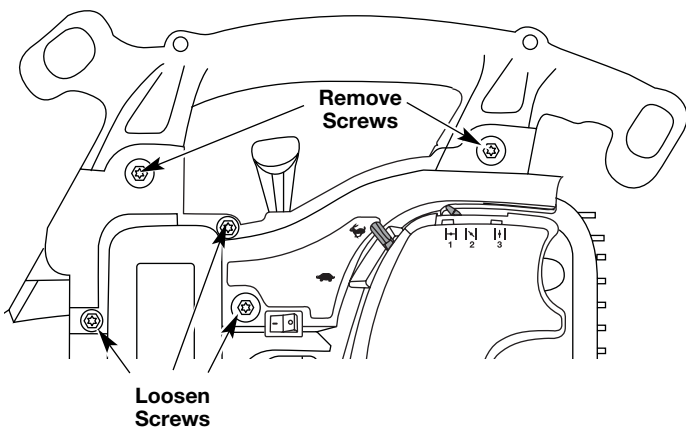

Fig. 34
1. Remove the 2 handle screws with flat blade or T20 torx head screwdriver, while holding the nuts with 3/8" nut driver (Fig. 34).
2. Remove top bolt located near starter rope handle with tools mentioned in step 1 (Fig. 34).
3. Loosen the 3 screws indicated in Figure 34.